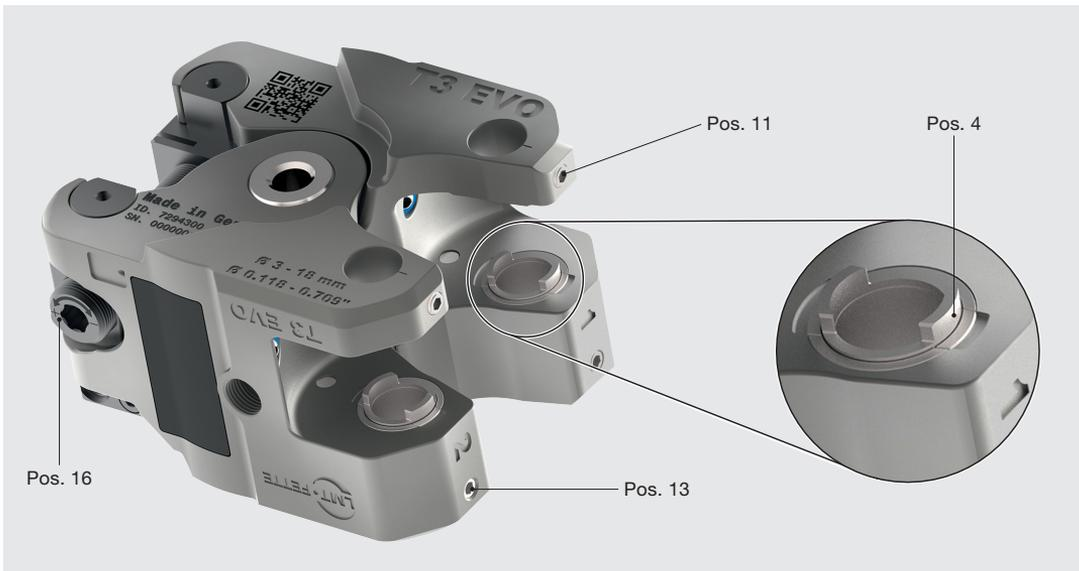

Figure 6: Check the gear position
6. The visual inspection must correspond to Fig. 6, otherwise the transmission is not synchronized.
Removing both of the roll axes helps to see better and is therefore recommended especially for inexperienced persons, see figure 6.